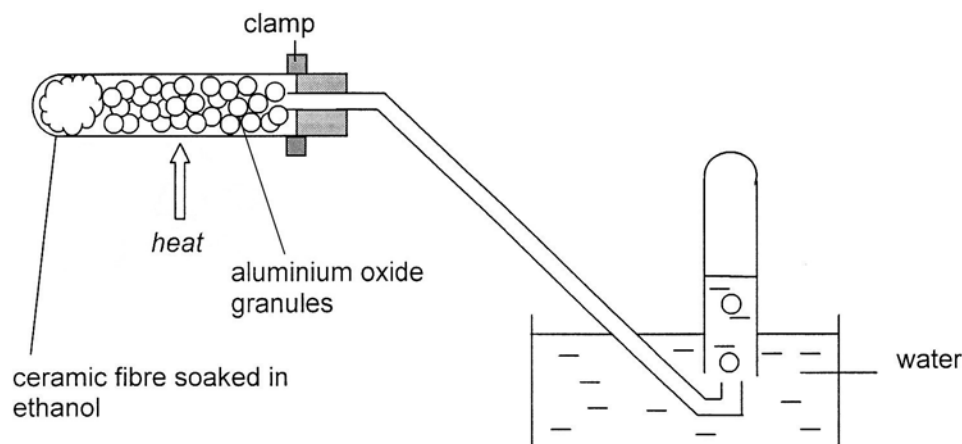

Figure 28.2
4. Heat the aluminium oxide strongly. Very occasionally, flick the flame onto the ceramic fibre, but only enough to ensure a steady stream of bubbles (figure 28.2).